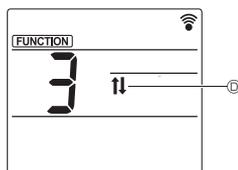

Fig. 5-3
- In the Function setting screen, press the **DOWN** button ④ and select function No. "3".
- Press the **SET** button ③.
- The ascending/descending mark ⑧ blinks. (Fig. 5-3)
- Press the **DOWN** button ④ or the **CANCEL** button ⑤.